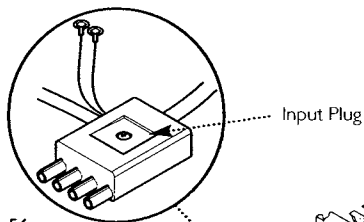

Fig. 56
2. Pull the input plug from the socket on the PCB (Fig. 56).